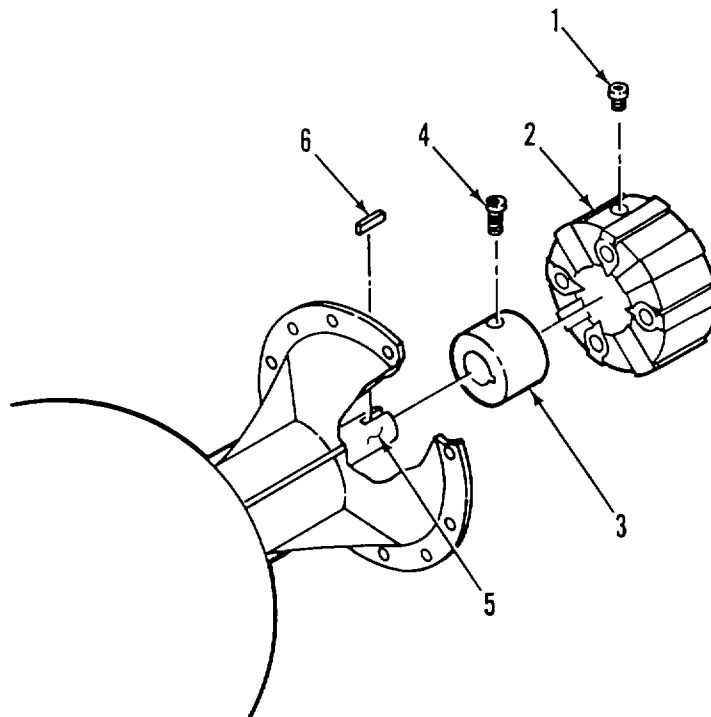

Figure 3-33. Flex Coupling
(1) Remove flex coupling from pump shaft as follows (Figure 3-33):